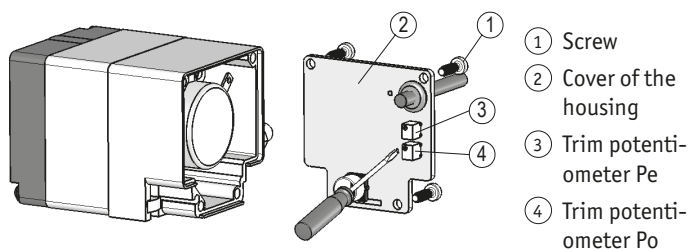

Fig. 6: Setting up the trim potentiometers MWI
Setting the instrument transformer (Fig. 6)
Via two trim potentiometers Pe (3) and Po (4) (see Fig. 6), these values can be adjusted to the application's actual start and end position.
1. Unscrew the screws (1) and open the cover of the housing (2).
2. Adjust the trim potentiometers Pe (3) and Po (4).